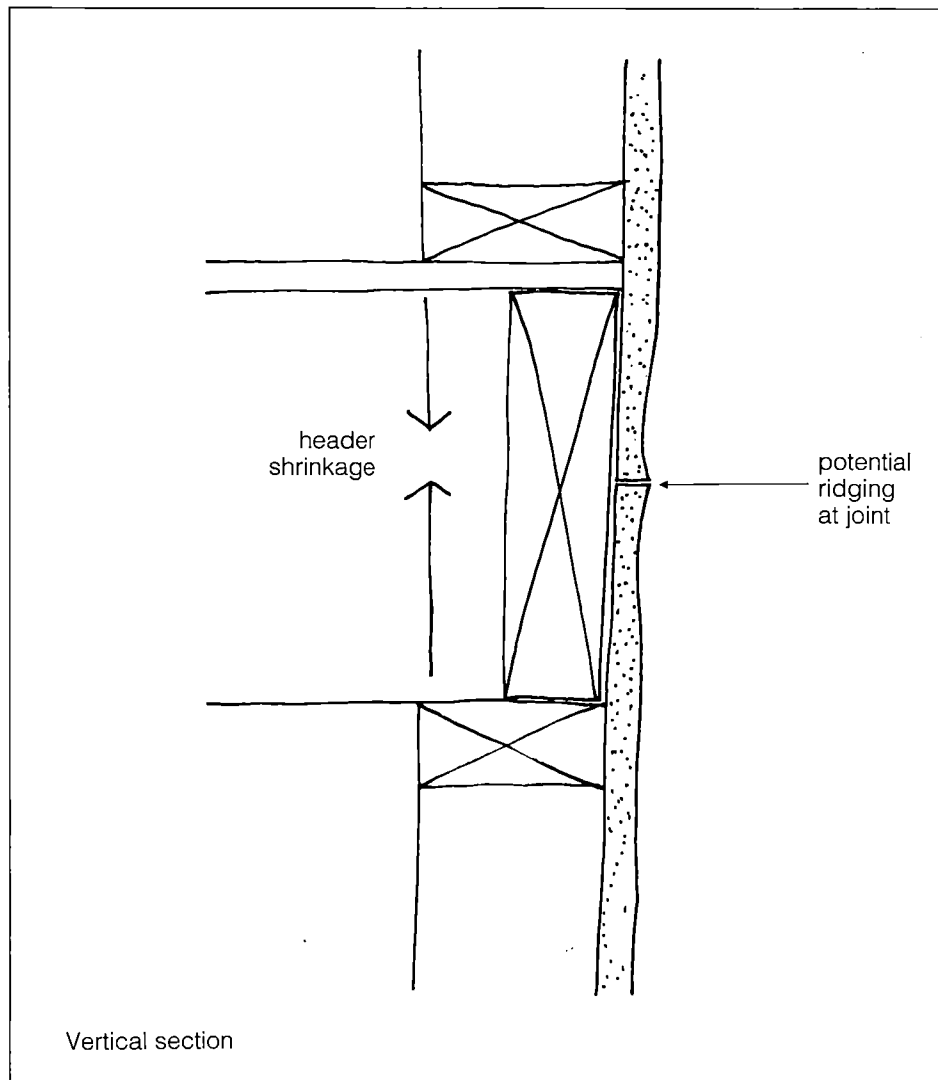

Fig. 22. Ridging at header
*Shrinkage at headers may cause ridging, especially at stairways (fig. 22). Ridging can also occur when studs and joists warp and twist (see also page 2).*